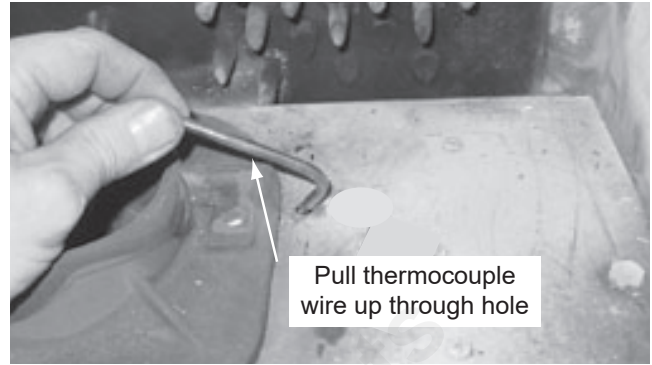

Figure 11
- Feed the wire through the right corner opening in the cast (**Figure 11**).